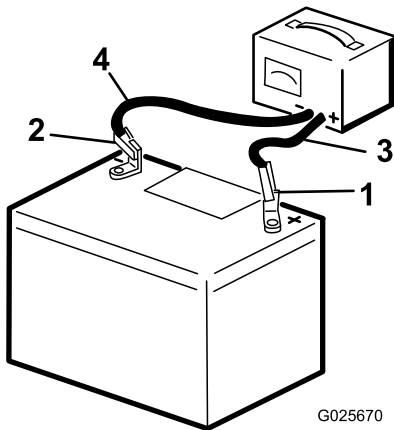

Figure 30
1. Charge the battery for 10 to 15 minutes at 25 to 30 A or 30 minutes at 4 to 6 A (Figure 30).
2. When the battery is fully charged, unplug the charger from the electrical outlet, then disconnect the charger leads from the battery posts (Figure 30).